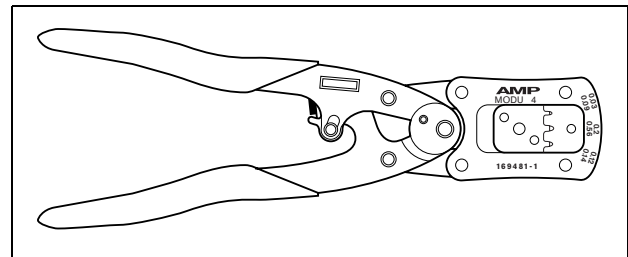

figure 18.15: Tyco AMP Modu 4 169481-1 pliers
- Tyco AMP Modu 4 169481-1 pliers (see figure 18.15)